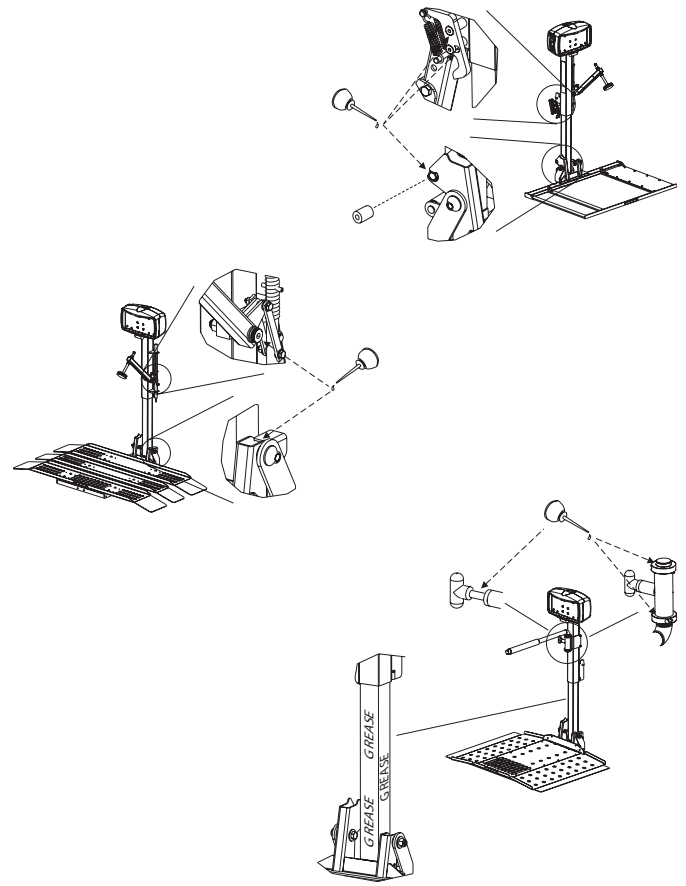

Figure 4-1
- Oil pivot points on all moving parts every Six (6) months.
- Grease the inside vertical square tube once a year (every six [6] months under hard conditions or extreme weather). Lower the platform to the ground and clean the tube with mineral spirits, WD-40® or a good solvent. When clean, grease the square vertical tube shaft with high-grade water-resistant grease such as boat trailer wheel-bearing grease. **See Figure 4-1.**